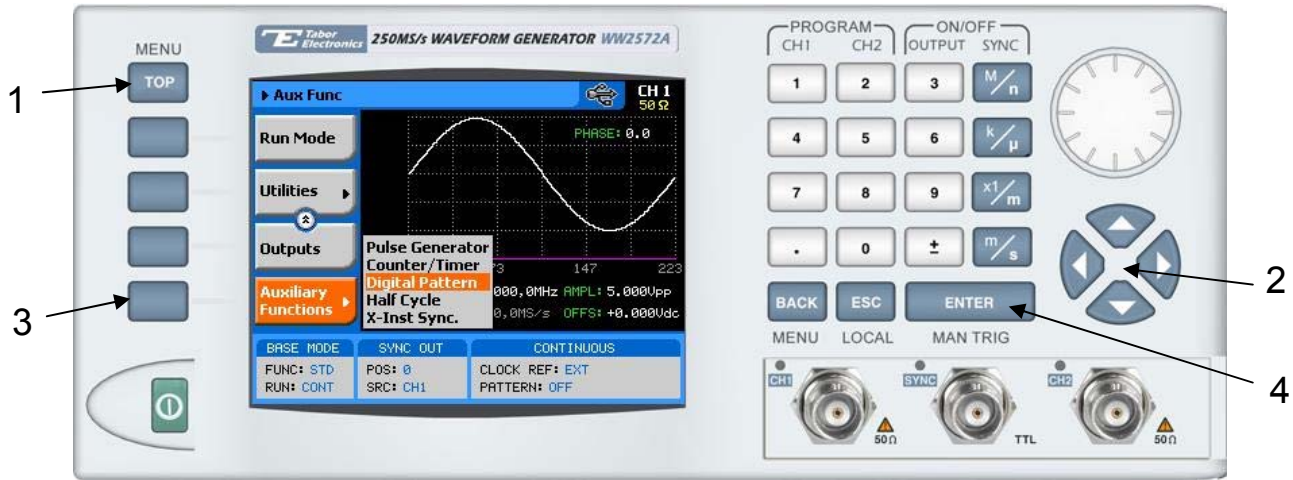

Figure 3-57, Accessing the Digital Pattern Menus
3. Press the Auxiliary Functions soft key and scroll down to highlight the Digital Pattern option, as shown in Figure 3-57.